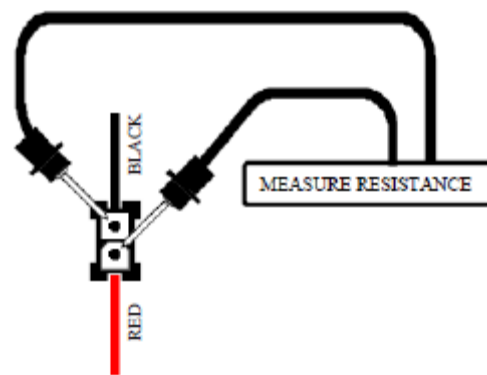

Figure 20. Connector J3
8. Disconnect the (J3) connector of the front intermediate harness (8) from the controller. Refer to the wiring diagram on page 11.
9. Make sure that the pins on J3 are seated properly. Measure resistance across (J3) pin 1 and pin 2 on the front intermediate harness (8) **with the park brake engaged. See figure 20.**